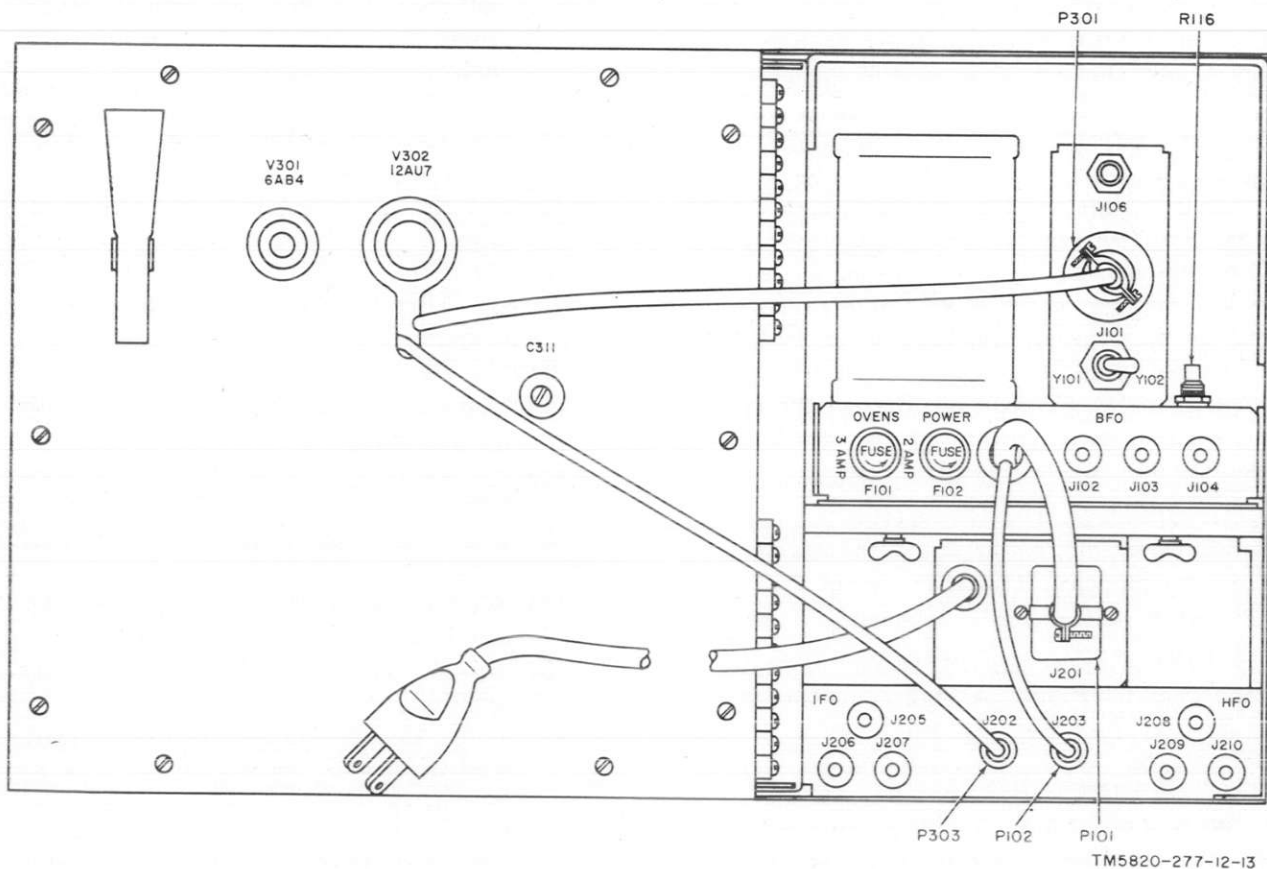

Figure 12. Variable frequency oscillator, rear operating controls.
- (1) Turn the BEAT switch to ON.
- (2) Plug the headset into the PHONES jack (or into J106 (fig. 12) at the rear of the power supply chassis).
- (3) Turn the BAND-MCS switch to the 2-4 position.
- (4) Turn the XTAL switch to the VMO
c. Rear Panel Controls and Jacks (fig. 12)
Note. The variable frequency oscillator requires an initial warmup period of at least 48 hours. The unit should never be turned off unless detailed repairs become necessary. The variable frequency oscillator provides one output voltage from the HFO section (available at connectors J208, J209, J210 (fig. 12)), one from the BFO section (available at connectors J102, J103, J104), and one from the IFO section (available at connectors J205, J206, J207). These output voltages are independent of each other, and may be obtained at the same time. Connect coaxial cable to the appropriate connectors as determined by the requirements of the using equipment.
- (1) Use connectors J102, J103, and J104 as necessary.
- (2) Set the BFO switch to the ON position.
- (3) Turn the crystal selector switch to the Y101 or Y102 crystal position.
- (4) Turn the METER selector switch to the BFO position.
- (5) Adjust potentiometer R116 (fig. 12) until the required rf output level is obtained for the equipment being used; the output level is read on the meter.